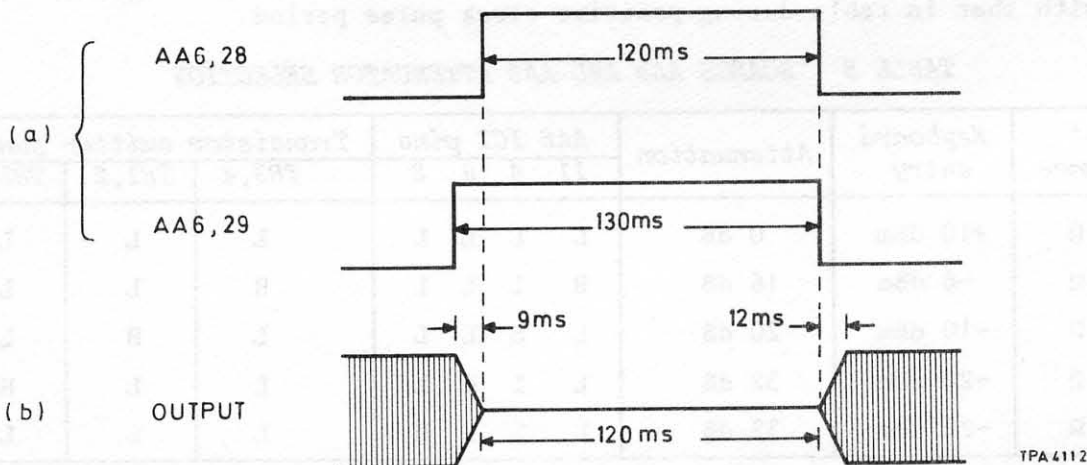

Fig. 6 Auto mute enable signals (approx. values given) - AA6
(3) Trigger from and display AA6, 29 MUTE pulses. Connect second channel to AA6, 28 and display ALC MUTE pulses. Check display is as shown in Fig. 6(a).
(4) Transfer oscilloscope to OUTPUT socket and check that shape of envelope conforms to that shown in Fig. 6 (b). Switch AUTO MUTE ENABLE to 0.
(5) With GPIB boards installed, place sender in remote condition using controller (or bus analyser) and check AA6, 24 for -7.5 V. Press C (clear) button and check AA6, 24 for +7.5 V.